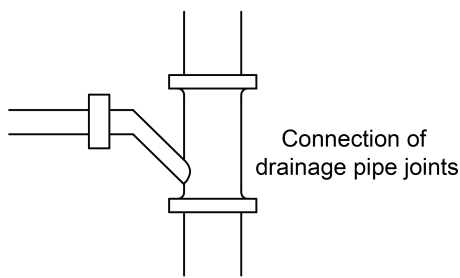

Fig.4.3.6
- (6) Install one trap for each unit.
- (7) Convenience for cleaning trap in the future should be considered when installing it.
- (8) The horizontal pipe can be connected to vertical pipe in the same level; please select the connection way as shown in following Fig.
- No.1: Connection of drainage pipe joints (Fig.4.3.6).